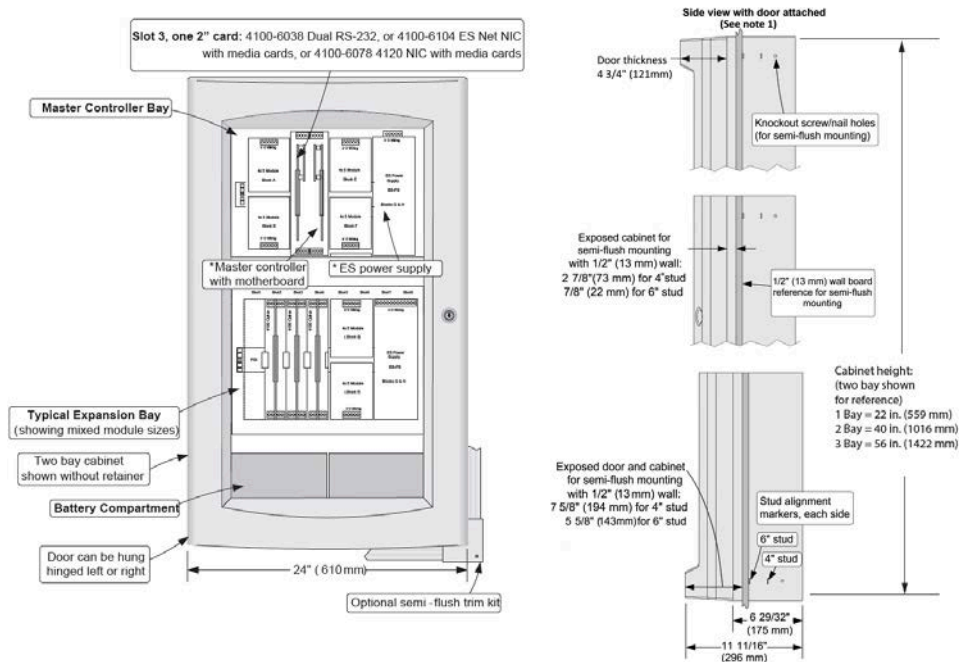

Figure 14: Mounting and CPU Bay Module Reference
2. Asterisks (\*) in Figure 14 indicate supplied modules.